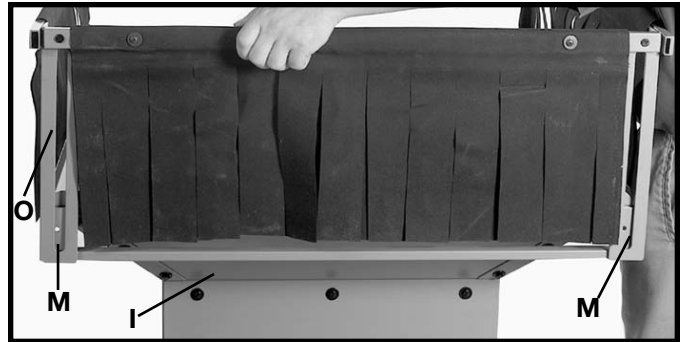

Fig. 21
1. Position the curtain frame (O), to the back of the skew board (I), and against the curtain frame plates (M), as shown in Fig. 21.